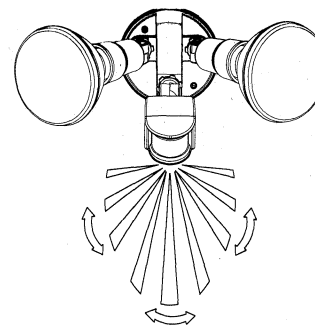

Fig.1B
- Do not aim towards reflective surfaces such as smooth white walls, swimming pools, etc. The Security Light scanning specifications (approximately 12 metres at 180°) may vary slightly depending on the mounting height and location. The detection range of the unit may also alter with temperature change. Before selecting a place to install your Security Light you should note that movement across the scan area is more effective than movement directly toward or away from the sensor. (refer Fig. 1B). If movement is made walking directly towards or away from the sensor and not across, the apparent detection range will be substantially reduced. (refer Fig. 1C)
- Have another person move across the centre of the area to be scanned and slowly adjust the angle of the sensor arm until the unit senses the presence of the moving person, causing the floodlights to switch on. (Refer Fig. 1B)